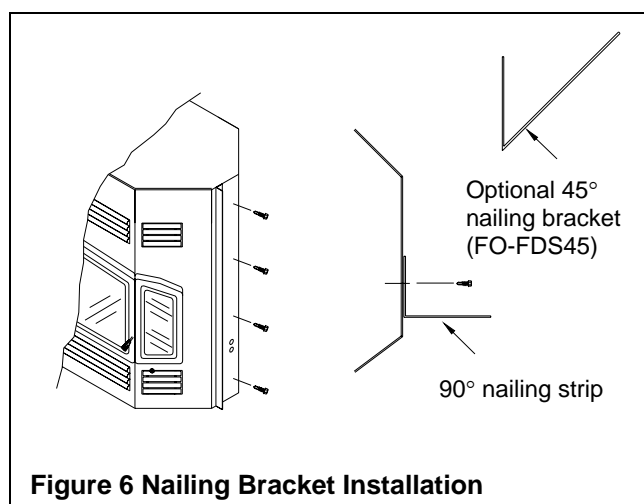

Figure 6 Nailing Bracket Installation
2. Remove the four (4) metal screws on each side of the DELTA2 facing.
3. Attach the nailing bracket to the side of the DELTA2 using the metal screws that you removed in Step 2 (see Figure 6).